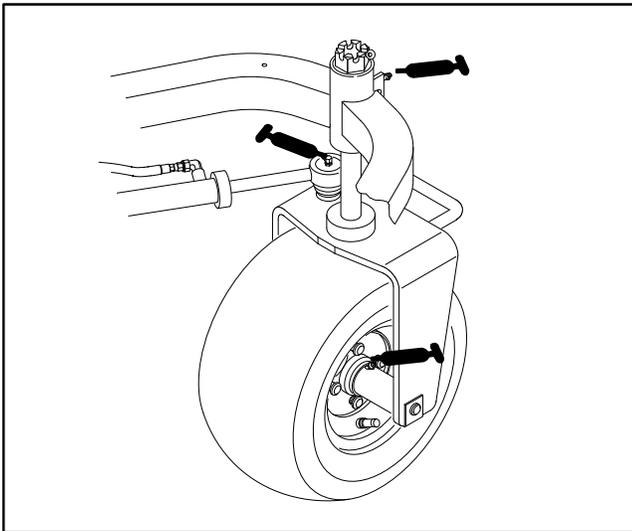
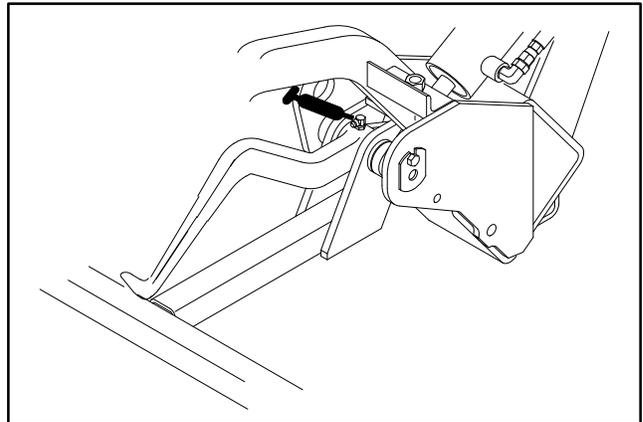
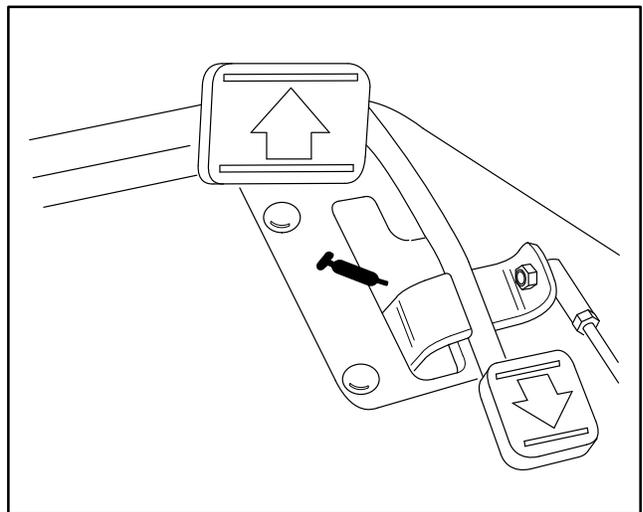

Figure 29
Figure 30
Figure 31
The traction unit bearings and bushings that must be lubricated are: Rear wheel hub (1), Castor bearing (1), Steering cylinder (2) (Fig. 29), Lift arms (3) (Fig. 30), Traction pedal pivot (1) (Fig. 31).